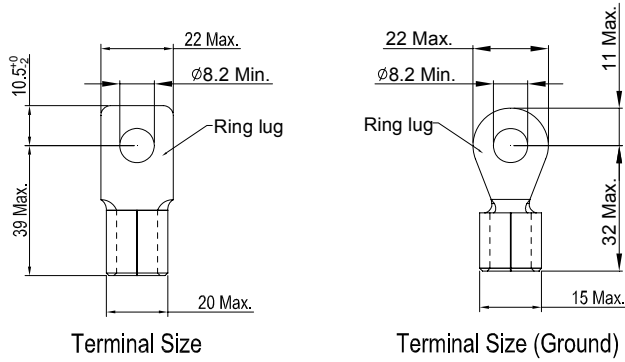

Figure 1.
2. Figure 1 shows the terminal specification.